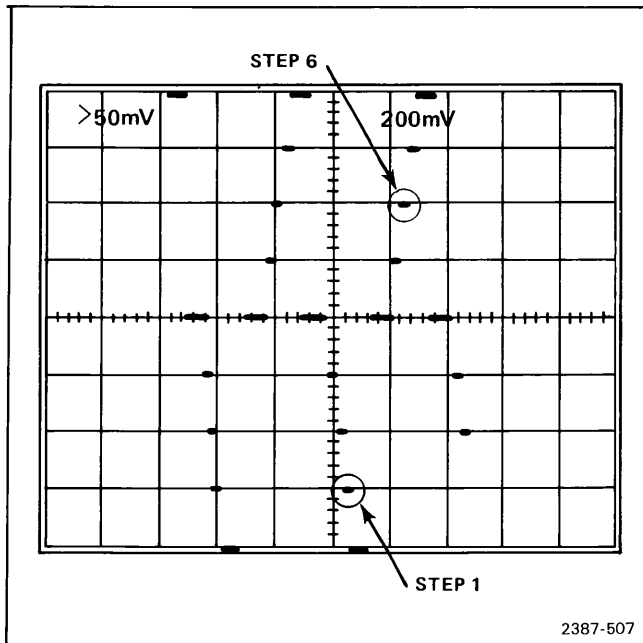

Fig. 5-7. Display of staircase waveform with its top and bottom steps set to the top and bottom graticule lines.
- f. Move the left vertical 7A16 Variable Volts/Div control to set the top staircase step at the top graticule line. See Figure 5-7.
- i. **CHECK**—that each of the marks from -3 divisions to $+3$ divisions aligns with the appropriate graticule line (see Fig. 5-7).
- j. Use the left 7A16A Position control to align the first stairstep with the first graticule line (see Fig. 5-7).
- k. **CHECK**—that the sixth step aligns with the sixth graticule line, $+$ or -0.1 division (see Fig. 5-7).